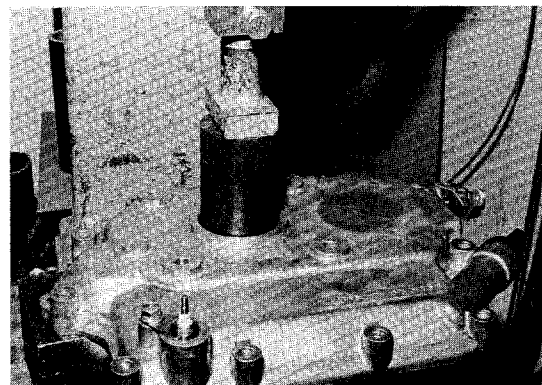

Figure 6-33
2. Remove oil seals (77) from crankcase and end case, if necessary (**Figure 6-33**).